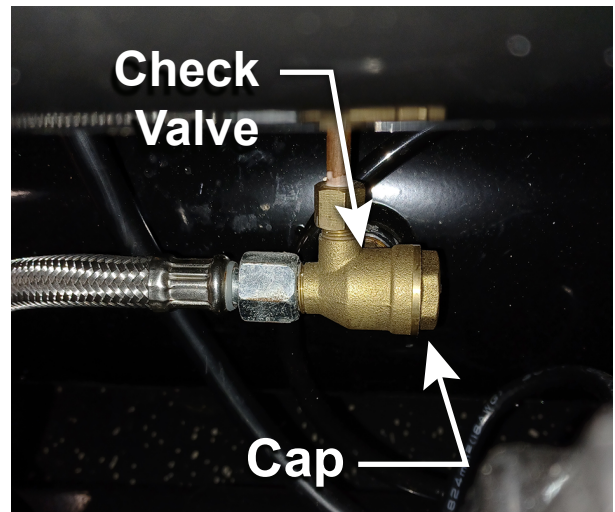

Figure 28. Location of check valve cap.
4. Remove cap, shown in **Figure 28**, from check valve. Located on back of tank beneath frame.